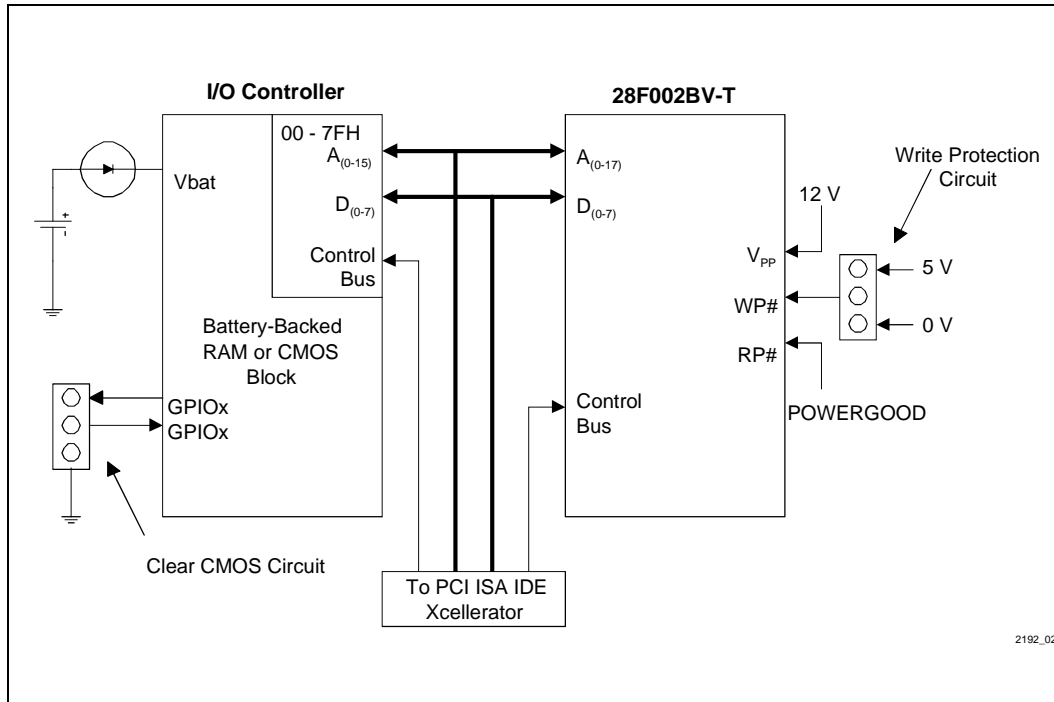

Figure 2. Example CMOS/Flash Hardware Setup
1. Reset or clear the CMOS memory: this action normally clears the CMOS memory and the ESCD (or Plug and Play data block) of the flash device. This is normally done by a jumper on the motherboard and a software utility supplied by the manufacturer of the motherboard. Figure 2 illustrates typical CMOS / flash hardware setup.